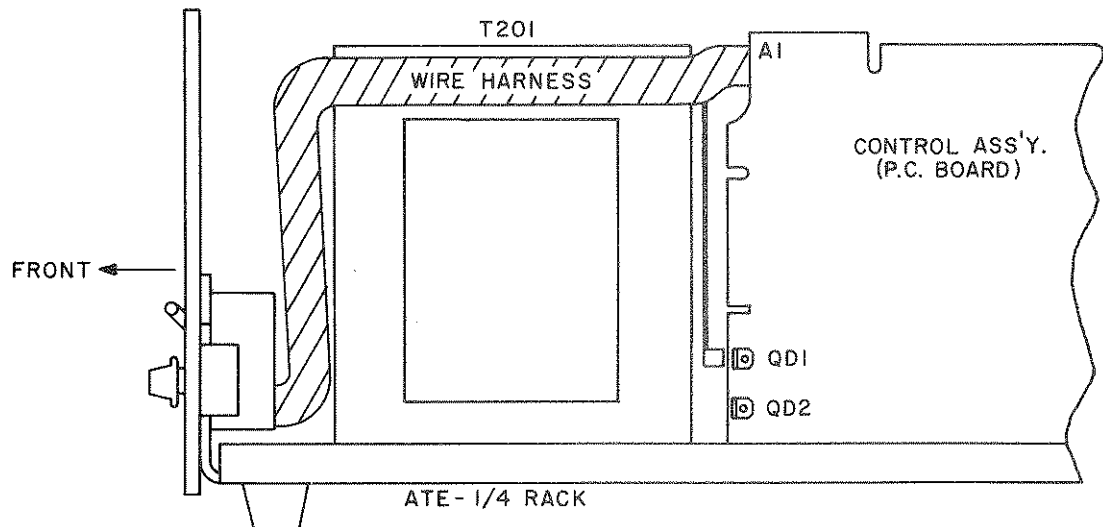
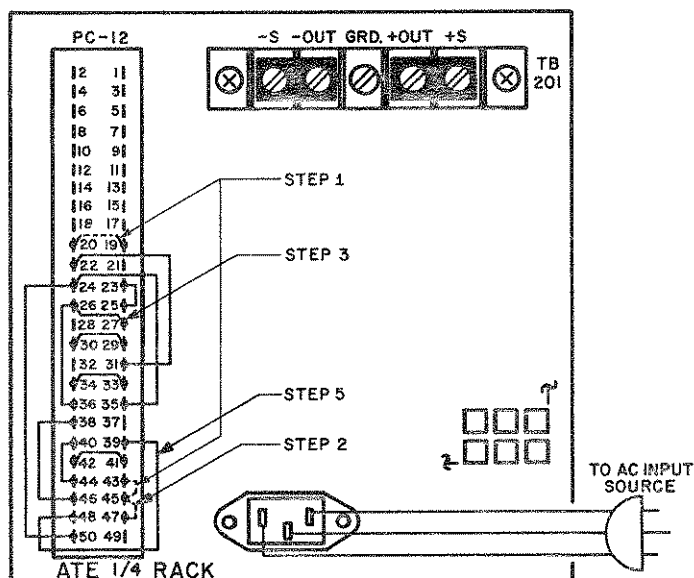

FIG. 2-5 LOCATION OF INTERNAL SIGNAL GROUND. SIGNAL GROUND NETWORK SHOWN CONNECTED VIA QD-1. TO REMOVE SIGNAL GROUND, PLACE WIRE LUG ONTO QD-2.
FIG. 2-6 REQUIRED STEPS FOR ATE
A resistor/capacitor network (R59, C27), is connected from the negative output terminal to the metal chassis of the power supply (via QD-1). If the internal signal ground is *not* desired, the connection to the chassis can be opened by changing the wire lug position from QD-1 to QD-2 (See FIG. 2-5).
- 2-17 MANUAL CHANGE-OVER, SLOW/FAST MODE. The ATE power supply is normally delivered for operation in the "slow" mode. By changing jumper connections at the rear of the power supply, the user can quickly convert from the "slow" mode to the "fast" mode or vice versa (See FIG. 2-6).
- STEP 1: Remove Links (19)-(20) and (43)-(45) on PC-12. This removes the output capacitor ( $C_o$ ).
- STEP 2: Remove jumper (45)-(47) on PC-12. This removes the main feedback capacitor ( $C_f$ ).
- STEP 3: Connect wire jumper on PC-12 from (26) to (27). This connects a lag network.
- STEP 4: Refer to Section II, FIG 2-5 and remove the internal grounding network.
- STEP 5: Connect wire jumper from (39) to (48) on PC-12. This introduces a required delay in the crowbar circuit.
- 2-18 PRECAUTIONS. The output capacitor, and to a lesser extent, the feedback capacitor of a power supply, control the programming speed and the current mode recovery time. The removal of these capacitors in the fast mode results in greatly improved power supply performance in these areas. The power supply's dynamic stability, however, is reduced, making the output sensitive to the load phase angle. For this reason, the load presented to the power supply in the fast mode must not contain excessive capacitance (limit: 1000pF). Also, with the output and main feedback capacitors removed, there will be an increase in the output noise, mainly high frequency noise and pick-up, so that external shielding of programming leads and good grounding practices assume added importance in the fast mode operation. See also note in FIG. 2-6.